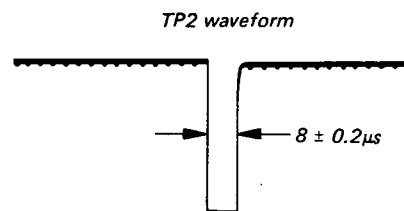

Fig. 5-149.
7. Adjust RV 3 for an H.BLK width of $8 \mu s$. (See Fig. 5-149.)